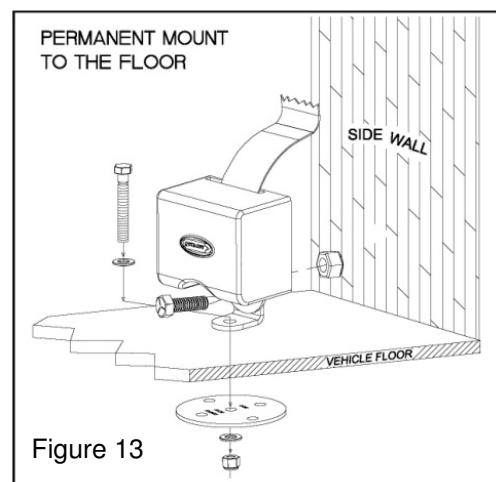

Figure 13
5. Securely fasten the lock nut as shown in Figure 13, ensuring at least 2 – 3 threads are sticking out. **Recommended torque = 35 FT/LB (47 N.m.).**